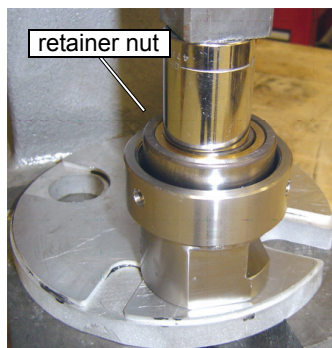

Figure C-21: Installing the Bearing Assembly with the Arbor Press
- Position the **bearing assembly** onto the swivel body shaft. Place a 1 inch (2.54 cm) deep well socket on top of the bearing assembly (Figure C-21). This will be used to press the bearing assembly into the swivel body. Make sure the socket presses against only the inside bearing race: